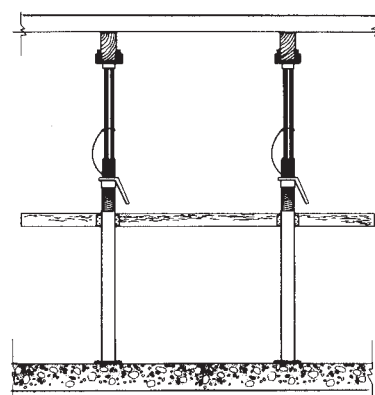

Figure 42-21: Single-Post Shores with Lateral Bracing
- With single-post shores, provide adequate lateral bracing (Figure 42-21). Stairwells and balconies are places where horizontal bracing for single-post shoring systems may be required.